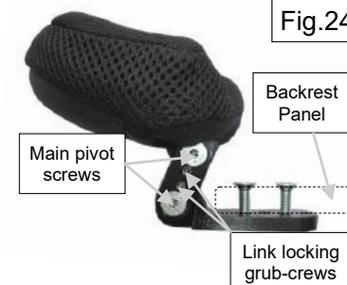

Fig.24
- Lateral rotational adjustment can be made by the Adjustment Links, by peeling back their fabric covers to gain access to the two main pivot screws. With the correct positions achieved, fully retighten the main pivot screws. The Pad positions can then be securely locked by tightening all Link locking grub-screws Fig.24. **NOTE:** There are two grub-screws on the top and bottom links. Refit link covers.